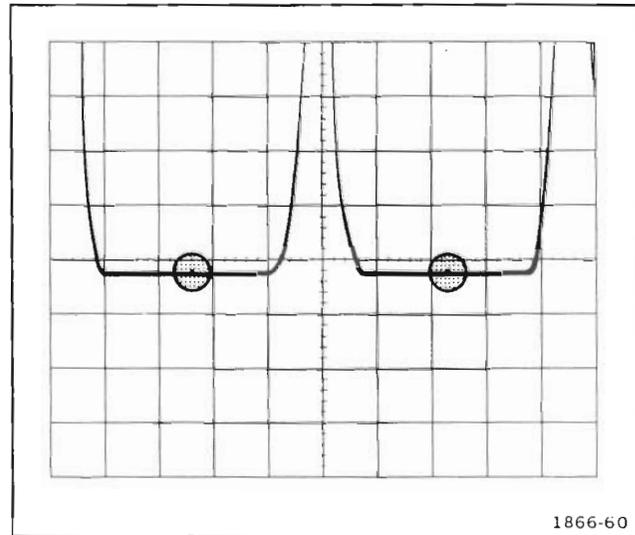

Figure 5-2. Typical display when horizontal limit centering is properly adjusted. Circles indicate the baseline areas for dc level match.
g. Check—The base lines of the displayed triangular waveforms for dc level match within 0.2 division. See Figure 5-2.